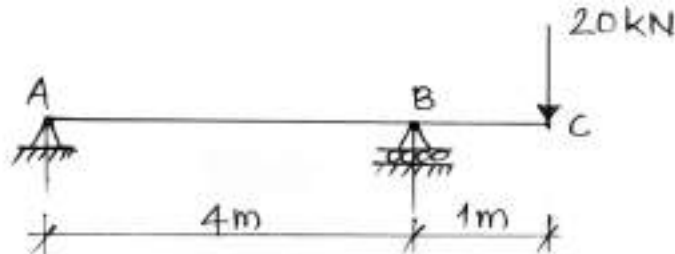

Fig. No. 4.
- c) Determine the support reactions of a beam loaded as shown in Fig. No. 4.